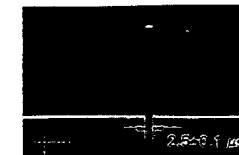

Fig. 3-4
- (1) Connect an oscilloscope to TP-1 on BC BOARD.
- (2) Adjust R46 (CP WIDTH) so that the width is  $2.5 \pm 0.1 \mu$ s as shown in Fig. 3-4.